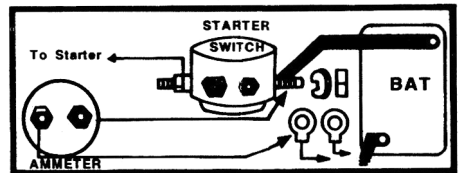

Figure 2
1. Mount the ammeter gauge (#2) where desired and route the wires from the ammeter through the vehicle firewall to the magnetic starter switch, as shown in Fig. 2.